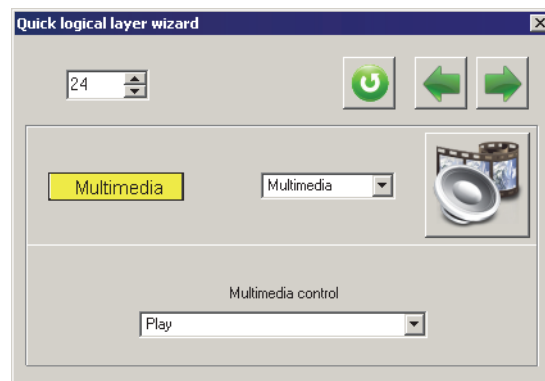

Fig. 5.13.
**Quick logical layer wizard** dialog for this function is shown on Fig. 5.13.